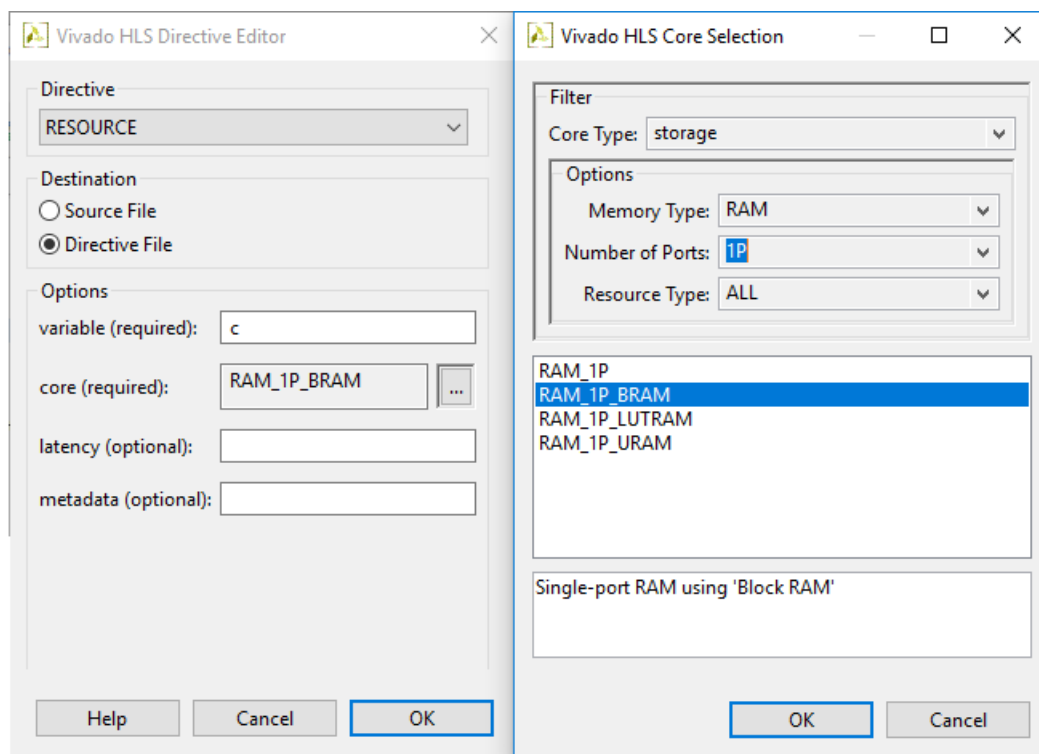

Figure 2-22: Adding a Resource Directive
- c. Select **RAM_1P_BRAM**, as shown in Figure 2-22. Then select **OK**.